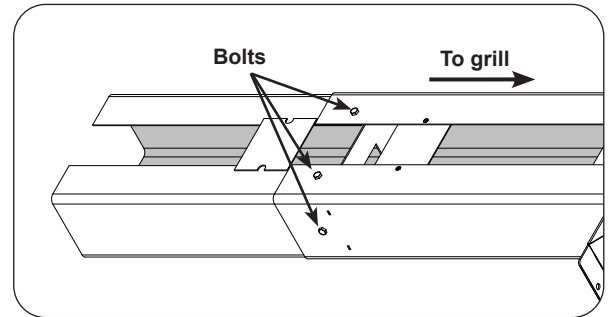

Fig. 31-1 Fasten extension to post
- From outside the joined post and extension, insert one of the 1/4" - 20 X 1/2" bolts (supplied) into each of the six (6) bolt holes and tighten each bolt using a 7/16" socket driver or wrench (see Fig. 31-1).